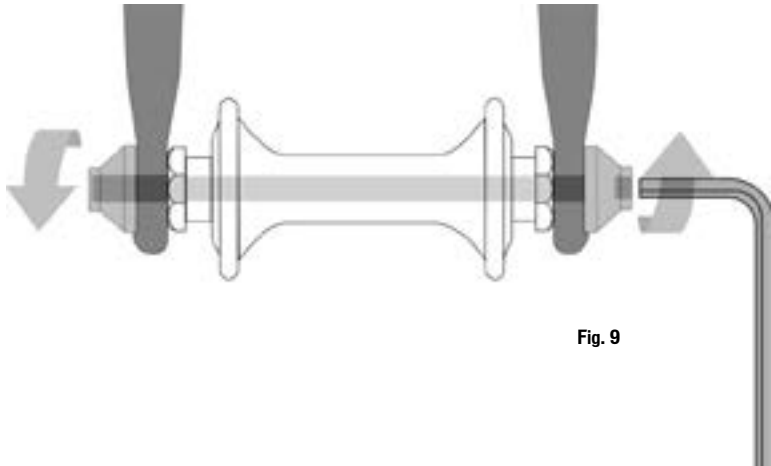

Fig. 9
- A hollow axle with a shaft (“skewer”) running through it which has a nut on one end and a fitting for a hex key, lock lever or other tightening device on the other (through bolt, fig. 9)